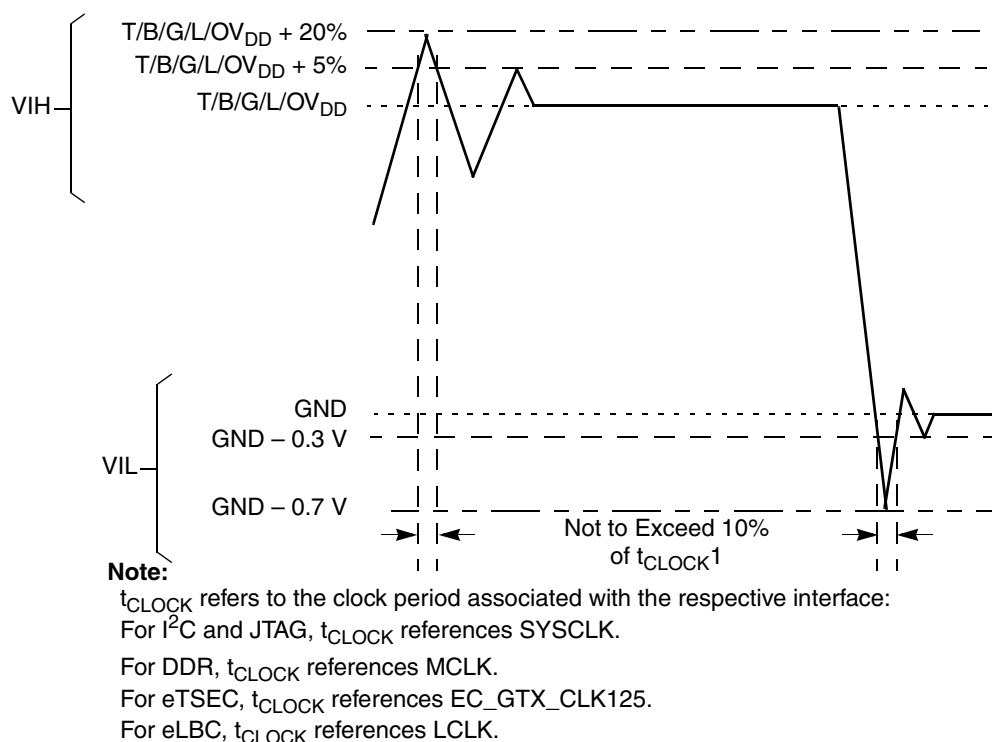

Figure 2. Overshoot/Undershoot Voltage for TV_{DD} / BV_{DD} / GV_{DD} / LV_{DD} / OV_{DD}
- (M,L,O) V_{IN} may overshoot/undershoot to a voltage and for a maximum duration as shown in Figure 2.
Figure 2 shows the undershoot and overshoot voltages at the interfaces of the MPC8572E.